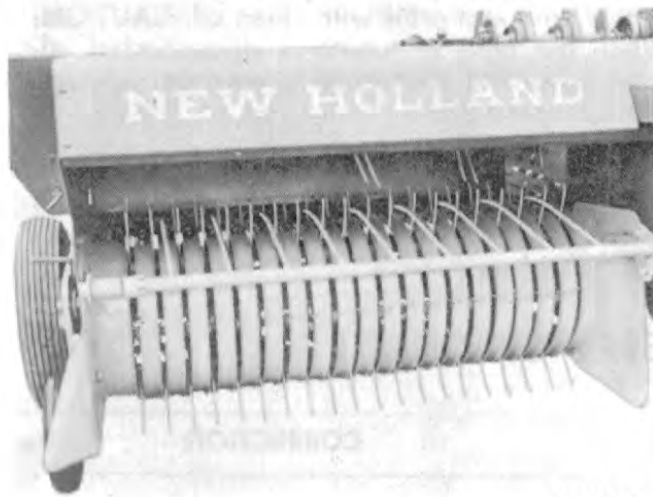

FIGURE 61
**SUPER SWEEP PICKUP** — See Figure 61. Factory installation only. The super sweep pickup has six bars and 120 pickup teeth spaced  $2\frac{5}{8}$ " apart as compared to four bars and 48 pickup teeth spaced  $4\frac{3}{8}$ " apart on the standard pickup. The super sweep pickup provides cleaner pickup action especially in light stemmy crops.